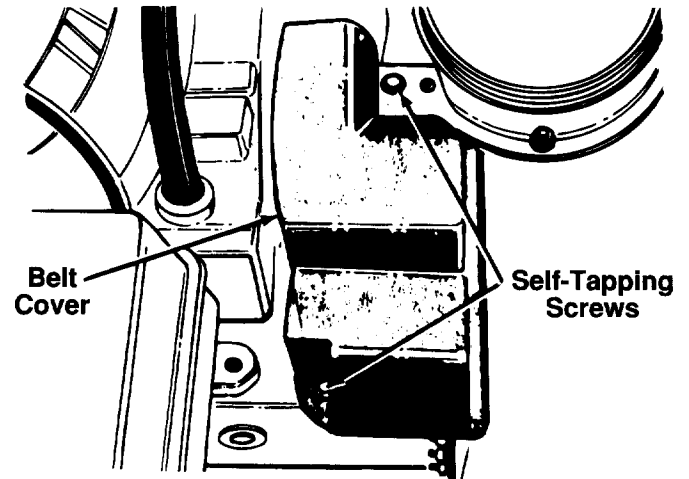

FIGURE 13.
2. Remove the plastic belt cover on the front of the engine by removing two self-tapping screws. See figure 13.